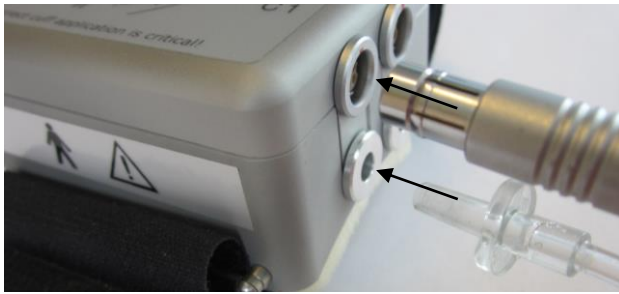

Figure A3-3: Connecting the finger cuffs to the Frontend Unit
6. **Guide** the cuff cable and air hose between the fingers to the back of the hand and connect them to the Frontend Unit which is worn on the wrist (see Figure A3-3).